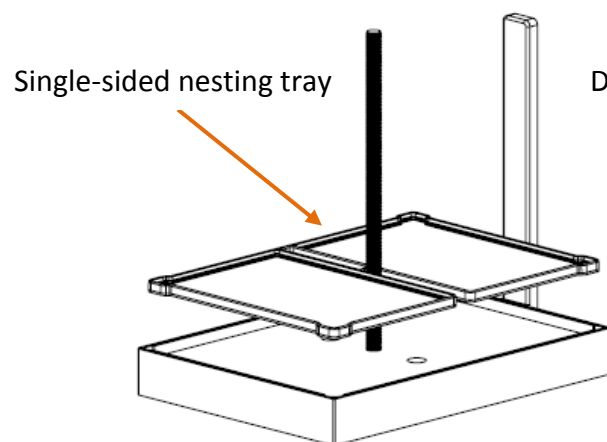

Figure 9 – Nesting Plate in Clamp Base
5. Place the single-sided nesting tray in the bottom of the clamp base, as shown in Figure 9, with the nests facing up.